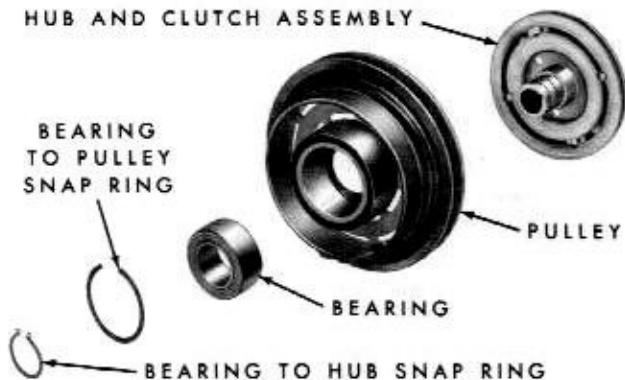

Fig. 8-9—Magnetic Clutch Disassembled—Warner
2. Remove the snap ring retaining the clutch and hub in the bearing. (See figure 8-9.)